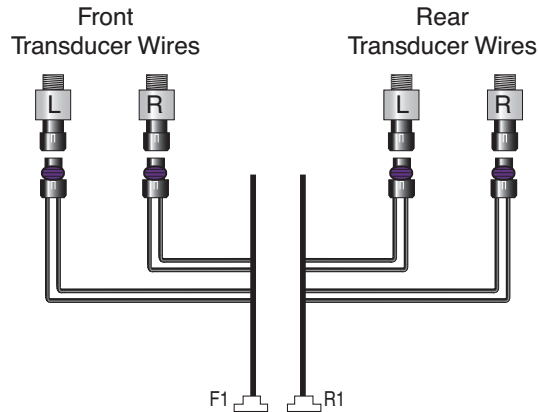

fig. 10
2. Connect the transducer wires to the corresponding transducers on the manifolds (Fig. 10).
The display panel can be mounted by either placing the bracket on top of something or by attaching the bracket to hang below something (Figure 10).